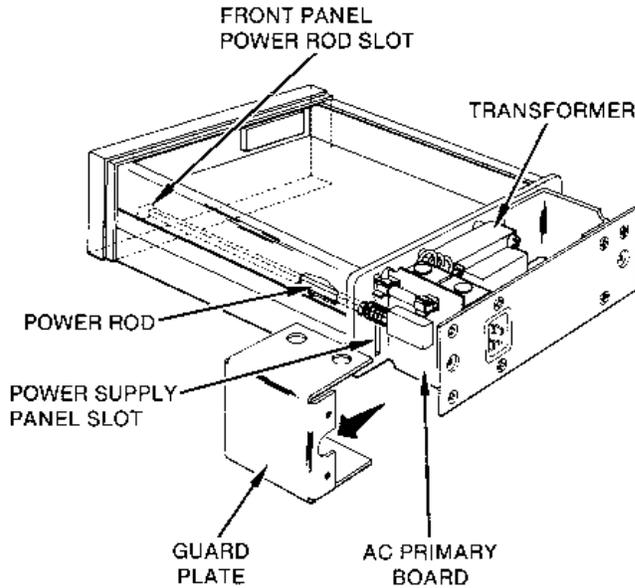
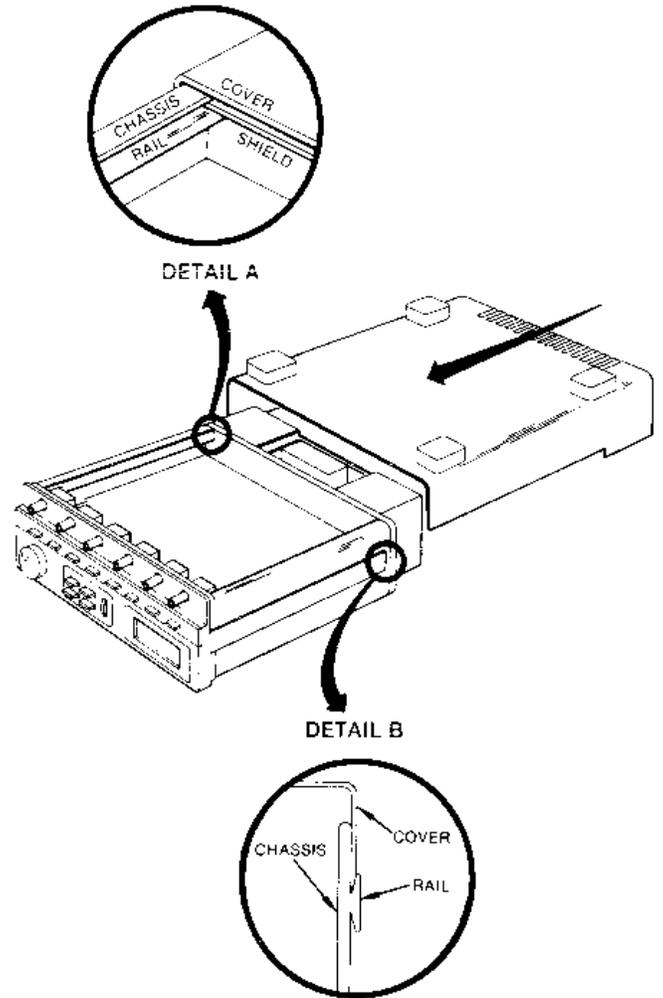

Figure 2-5. Rear Chassis Assembly
Figure 2-6. Top and Bottom Cover Installation
Refer to figure 2-5 for steps 1 thru 3 and figure 2-6 for steps 4 thru 6.
- Turn the instrument upside down, position the bottom cover over the guard shield, and then slide the bottom cover forward approximately two (2) inches while engaging the top cover shield slides (see figure 2-6, detail A) and the outside slide rails (see figure 2-6, detail B).